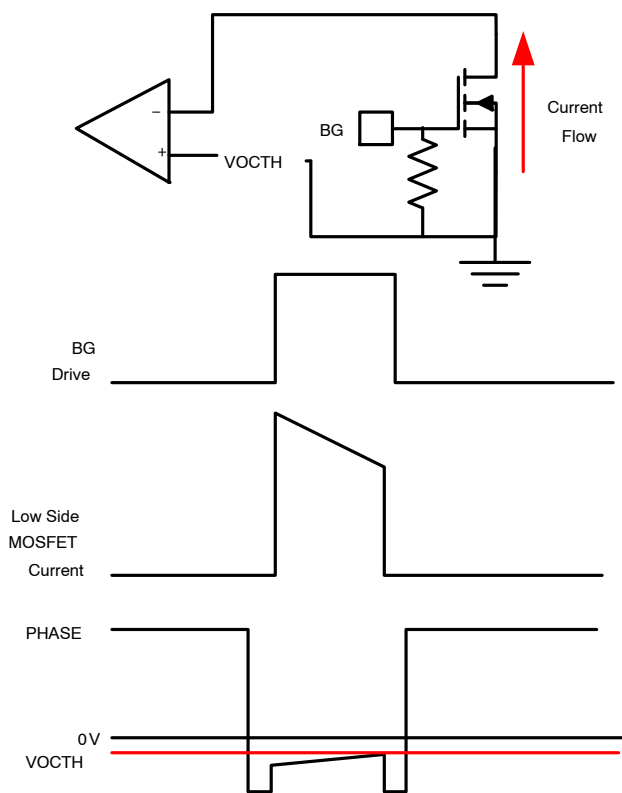

Figure 20. Current Limit Trip
In case of a short circuit or overload, the low-side (LS) FET will conduct large currents. The regulator will latch off, protecting the load and MOSFETs from excessive heat and damage. Low-side $R_{DS(on)}$ sense is implemented at the end of each LS-FET turn-on duration to sense the current. While the low side MOSFET is on, the V_{SW} voltage is compared to the user set internally generated OCP trip voltage. If the V_{SW} voltage is lower than OCP trip voltage, an overcurrent condition occurs and a counter counts consecutive current trips. If the counter reaches 7, the PWM logic and both HS-FET and LS-FET are turned off. The regulator has to go through a Power On Reset (POR) cycle to reset the OCP fault as shown in Figure 20.